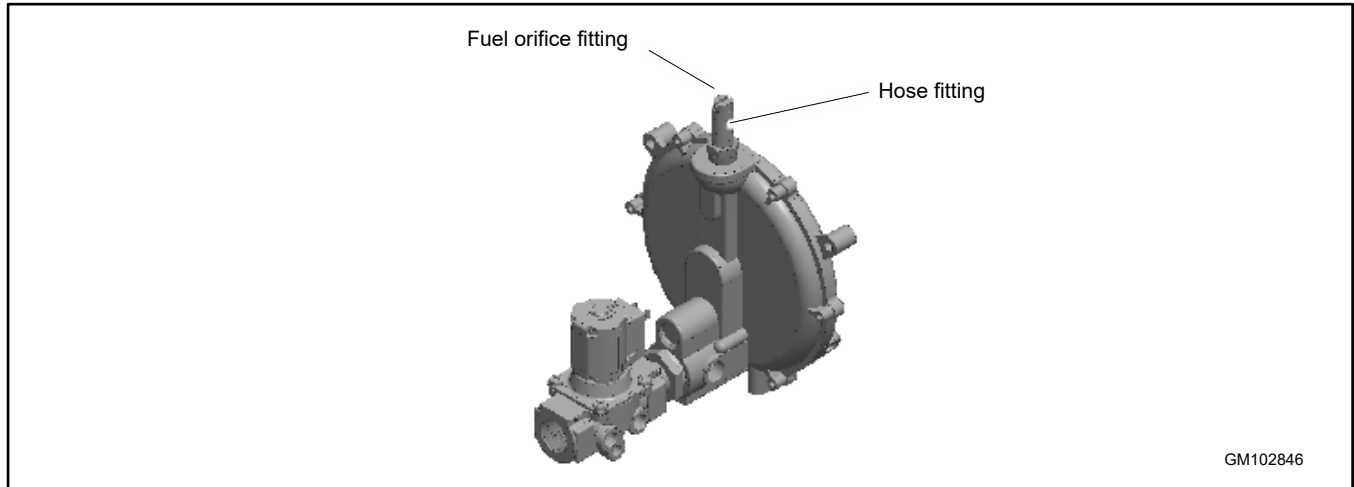

Figure 14 Fuel System Showing Orifice Fitting
5. Remove the hose clamp and fuel hose from the hose fitting. See Figure 14.
6. Use a straight-blade screwdriver to remove the NG orifice from the hose fitting. See Figure 14.